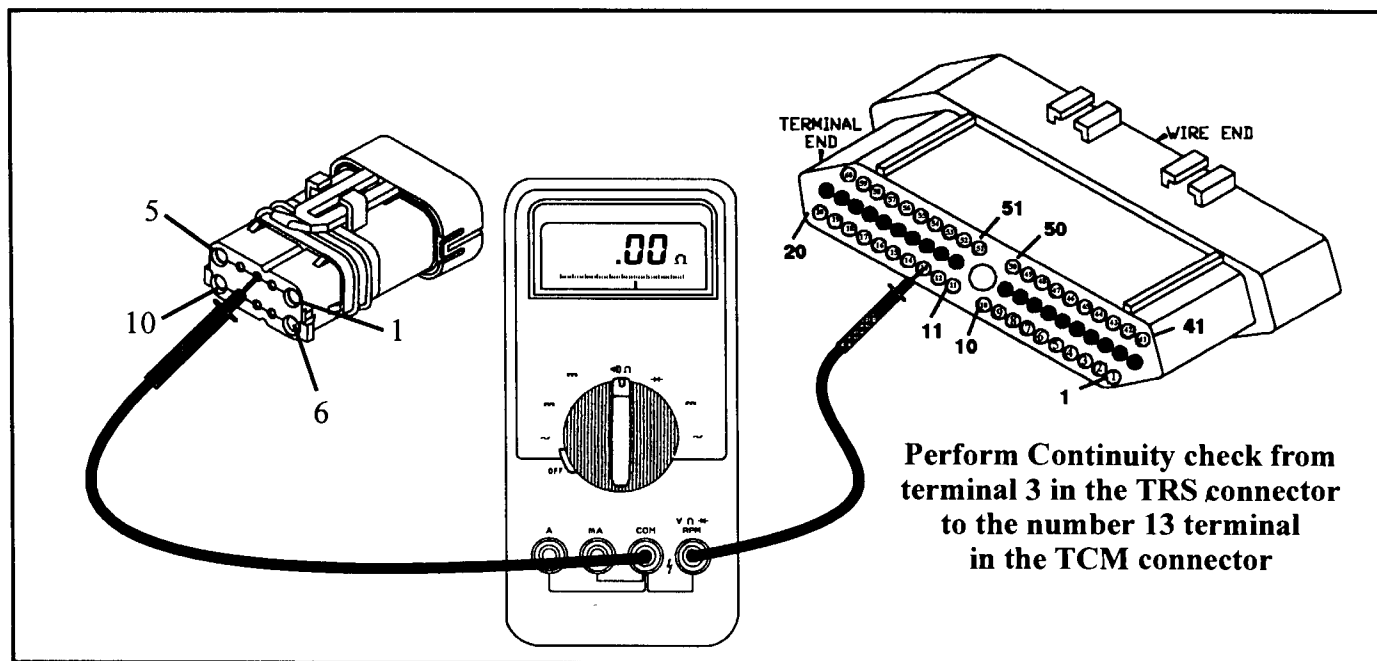

Figure 62
- 1996 and later vehicles have a Transmission Fluid Temperature Sensor built into the Transmission Range Sensor. The ground wire for this sensor is shared with the Turbine and Output RPM sensor at pin 13 in the TCM connector. Should this ground wire become severed, a code 58 and 72 may be set. A continuity check can be performed by placing one meter lead to terminal 3 in the TRS connector and terminal 13 in the TCM (See Figure 62). For further TFT sensor checks, refer to page 84.